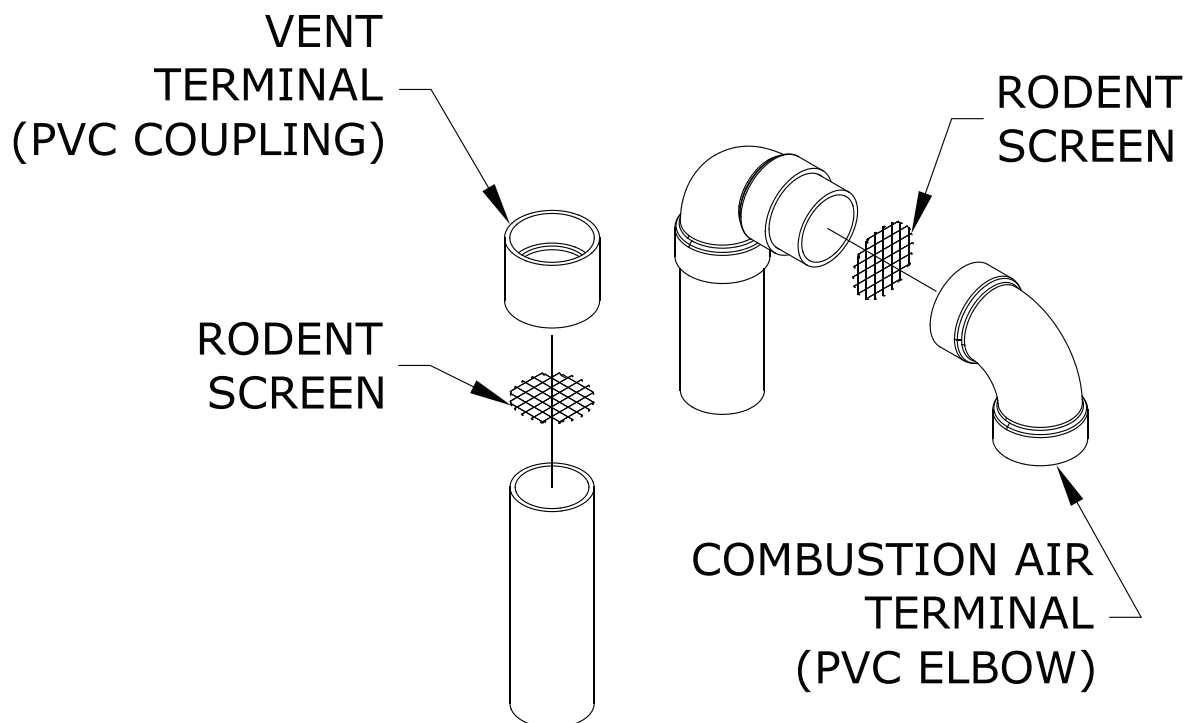

Figure 7.29: Installation of Standard Vertical Terminals
- a. See Figure 7.29 for the proper orientation of twin pipe vertical terminals.
- c. A 180° bend (or two 90° elbows) are installed on the top of the air intake pipe. If two 90° elbows are used, a rodent screen can be installed between them (Figure 7.29). If a 180° bend is used, install a rodent screen in the open side of the bend, using a ring made of PVC pipe. If desired, the termination fittings can be attached to the end of the vent and/or intake pipes with field supplied stainless steel screws so that they can be later removed for cleaning and inspection. If this is done, drill a clearance hole in these fittings and a tap hole in the end of the vent/intake pipes to accept these screws.